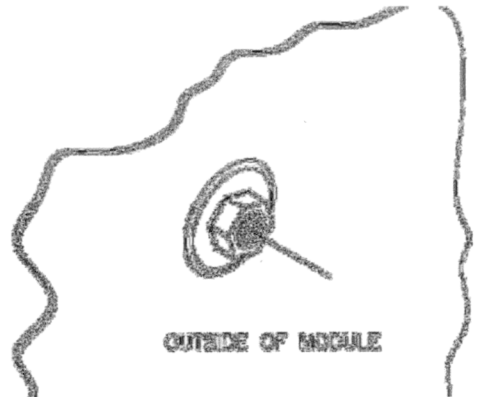

Figure 6-4A Flange Nut Detail
2. Prior to cell insertion assemble the two (2) side restraint plate bolts and washers (when required) into the floating flanged nuts through the hex-shaped recessed holes on the right side of the modules (or both sides for the 45", 49" and 58" wide modules); Ref Figure 6-4A, Flange Nut Detail). Do not completely tighten the bolt/washer/nut assemblies at this time.